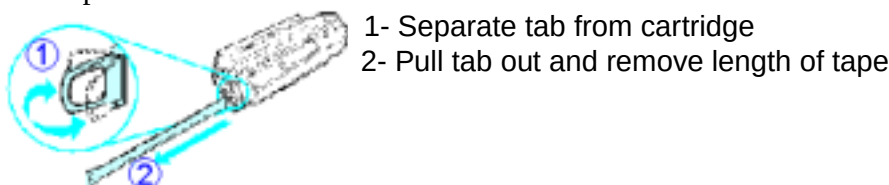

Figure 21. Removing The Sealing Tape
3. Locate the sealing tape tab on the end of the cartridge. Carefully bend the tab back and forth until it separates from the cartridge. Firmly pull the tab straight out from the cartridge to remove the entire length of tape as shown in Figure 21. Avoid touching any black toner on the tape.